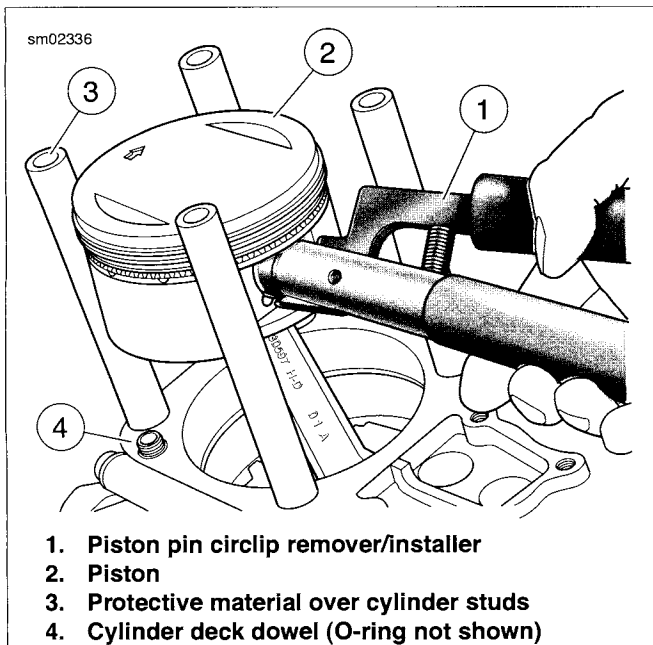

Figure 3-27. Piston Pin Circlip Removal (Part No. HD-42317)
6. See Figure 3-27. Remove O-ring from dowel pin (4) on base of cylinder deck. Discard O-ring.
2. See Figure 3-27. Remove the piston pin circlip.
- a. Insert the PISTON PIN CIRCLIP REMOVER/INSTALLER (Part No. HD-42317-A) (1) into the piston pin bore. Position claw on tool in slot of piston (2) (directly under circlip).